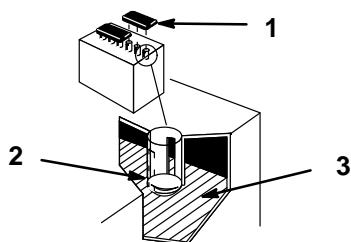

Figure 41
1. Open covers to see into the cells. The electrolyte must be up to the lower part of the tube (Fig. 41). Do not allow the electrolyte to get below the plates. (Fig. 41).
2. Lift off the filler caps (Fig. 41).
3. Slowly pour distilled water into each battery cell until the level is up to the lower part of the tube (Fig. 41).